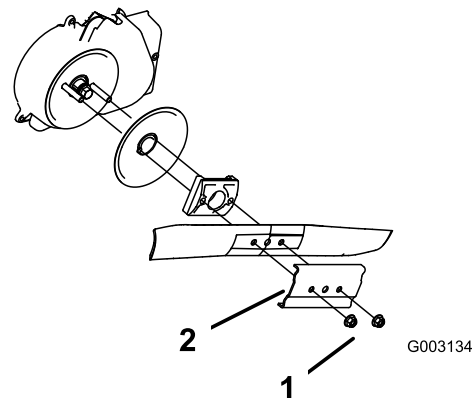

Figure 18
3. Remove the 2 blade nuts and the stiffener (Figure 18).
4. Remove the blade (Figure 18).
5. Install the new blade (Figure 18).